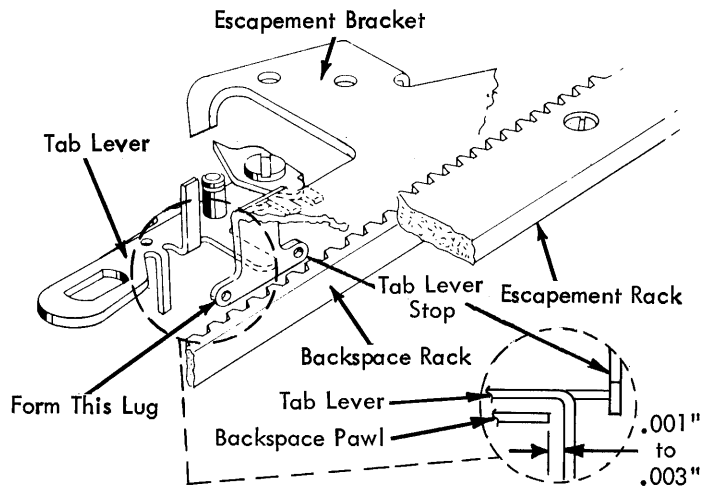

FIGURE 239. Tab Lever Stop
1. Tab Lever Stop - Form the stop on the escapement bracket (Fig. 239) to obtain .001" to .003" clearance between the vertical lug on the tab lever and the back-space pawl when the tab lever is at rest and the back-space pawl is fully seated in its rack.